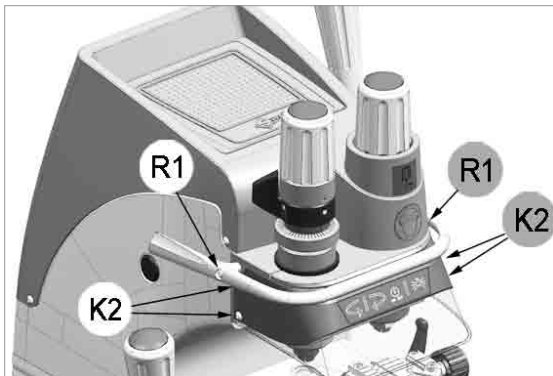

Fig. 59
- 2) Remove the 2 screws (R1) securing the rollbar (Fig. 59).